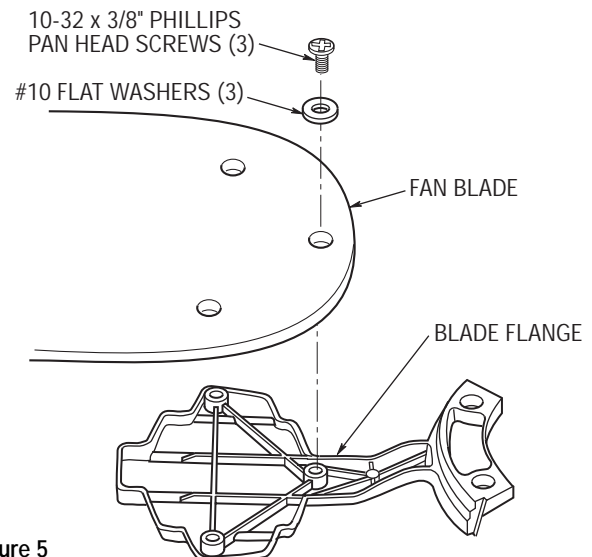

Figure 5
10. Use three 10-32 x 3/8" Phillips pan head screws (supplied) and three #10 flat washers to secure the fan blade to the blade flange (Figure 5). Repeat this procedure for the remaining four blades.